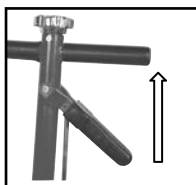
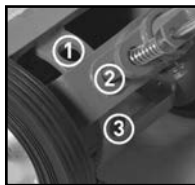
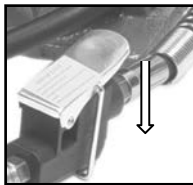

Fig. 12
Fig.13
Fig.14
- Position the handle assembly (2) in desired angle. This is done by pulling the lock lever (3) [fig.12] and raising or lowering the handle to one of the three pre-set position (fig.13). Release the lock lever (3) to lock the handle in the desired position.
- Turn the release knob (1) completely clockwise to its closed position. Then connect to the air supplies air hose (not included) to the air inlet (13).
- Depress the lever on the air valve assembly (12) until the Saddle (9,10 or 11) of the Air/Hydraulic Truck Jack has nearly reached the vehicle lifting point. Position the Jack at 90° to the vehicle's lifting point to ensure the Jack's Saddle and vehicle lifting point are in alignment. If not, remove and then reposition the Air/Hydraulic Truck Jack before lifting.
- To lift the vehicle, continue to depress the lever on the air valve assembly (12) [fig 14].